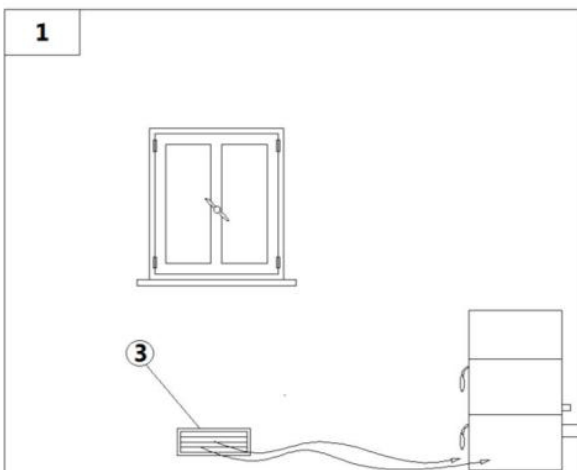
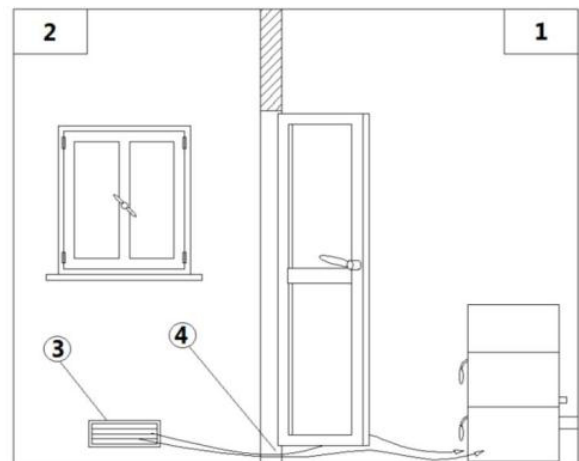

Fig. 7 - Direct air inflow
Fig. 8 - Indirect air inflow
LEGEND	Fig. 7 page 8 Fig. 8 page 8
- The air inflow from outside to the inner occurs directly, through an opening on the external wall of the room (see Fig. 7 page 8); otherwise it occurs indirectly by air suction from rooms adjacent to the one to ventilate (see Fig. 8 page 8).